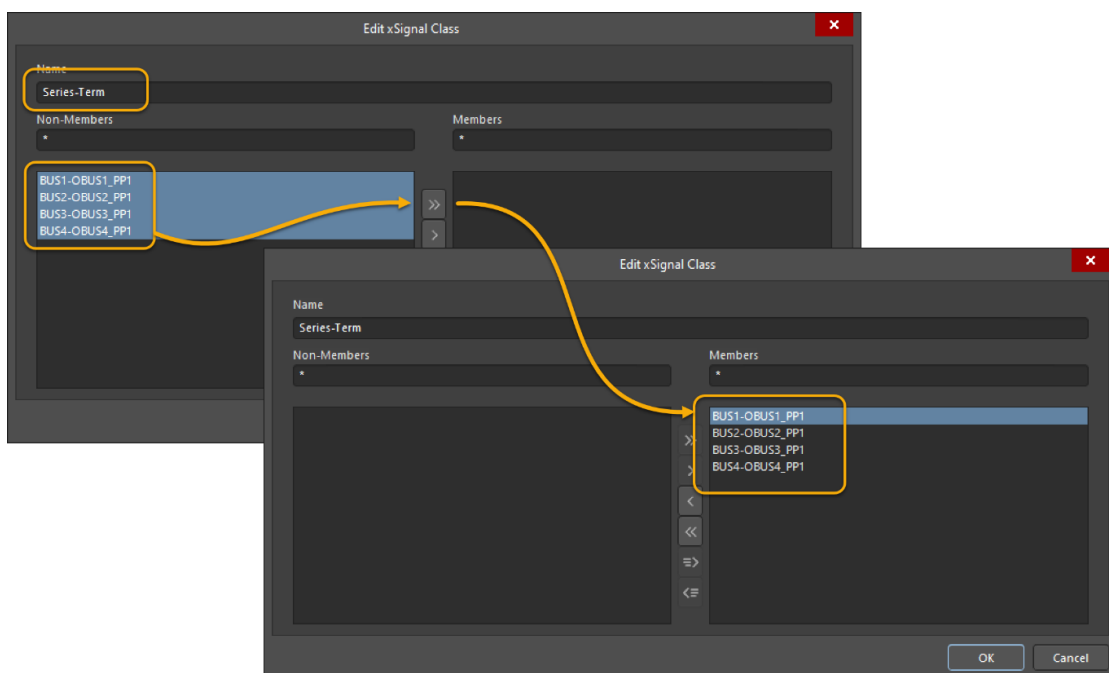

Figure 8. Adding xSignal members to a xSignal class
- Then, click on the **>>** button to add these 4 xSignals to the *Members* group. Your dialog should now look like Figure 8.